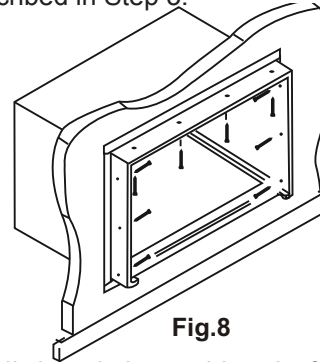

Fig.8
5. Screw or nail cabinet wooden frame using shims if frame is oversized, to eliminate distortion. See Fig. 8. Remember to maintain proper slope as described in Step 3.